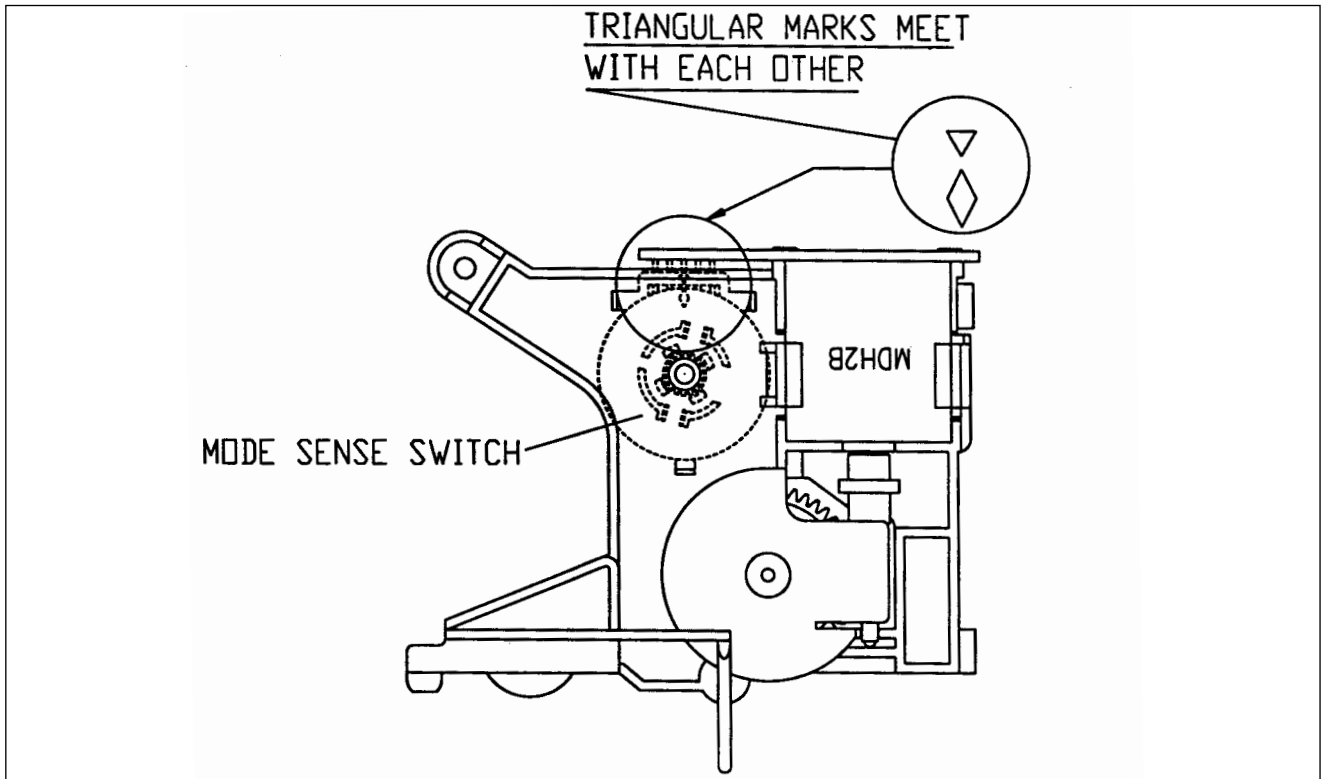

Fig. 3 - Mechanical checks/Mode Sense S/W Alignment
3. There are two (2) triangular marks on the mode sense switch. When installing the L/C bracket assembly on the main base, confirm that the two (2) triangular marks aligned with each other in the EJECT mode (Fig. 3)